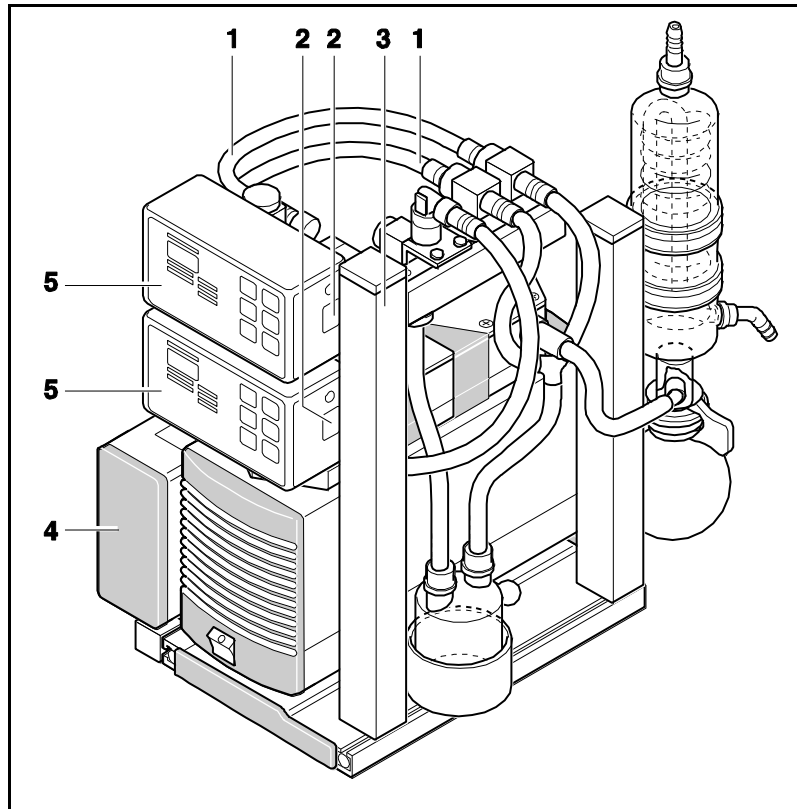

Fig. 8: Vacuum controller (shown: LABOPORT system SCC with pump UN840.3FTP as example)
1. Slide the electrical supply unit (see fig. 8/4) with both tightening nuts into the baseplate's lateral slotted bar.
1. Slide the support’s attachment part (see fig. 8/3) into the baseplate’s lateral, upward-pointing slotted bar.